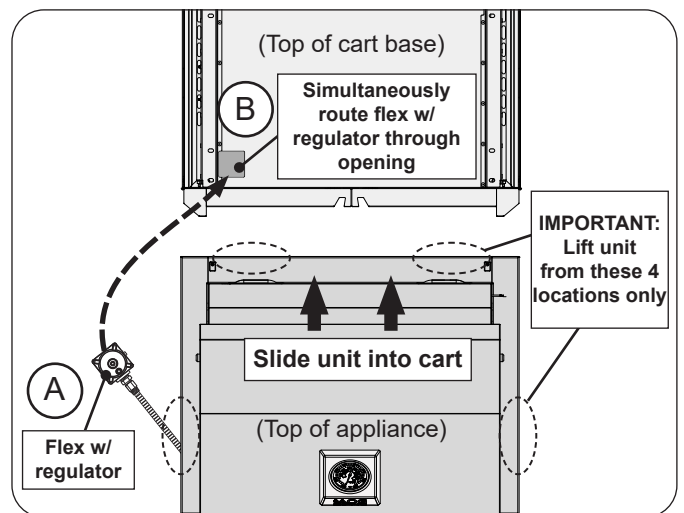

Fig. 10-3 Begin appliance installation
DO NOT lift the unit from the front panel when installing. Lift only from the designated areas shown on Fig. 10-3.
1. Using 2 people minimum, carefully lift and place the rear end of the appliance over the cart opening and begin to slide the unit inward. **DO NOT SLIDE THE UNIT IN COMPLETELY! While installing** (Fig. 10-3, A), be sure to simultaneously route the flex connector with regulator downward through the rectangular opening on the front left portion of the cavity floor. See Fig. 10-3, B.
Note: Only lift the appliance from the locations indicated on Fig. 10-3. Do not lift the unit from the front panel.